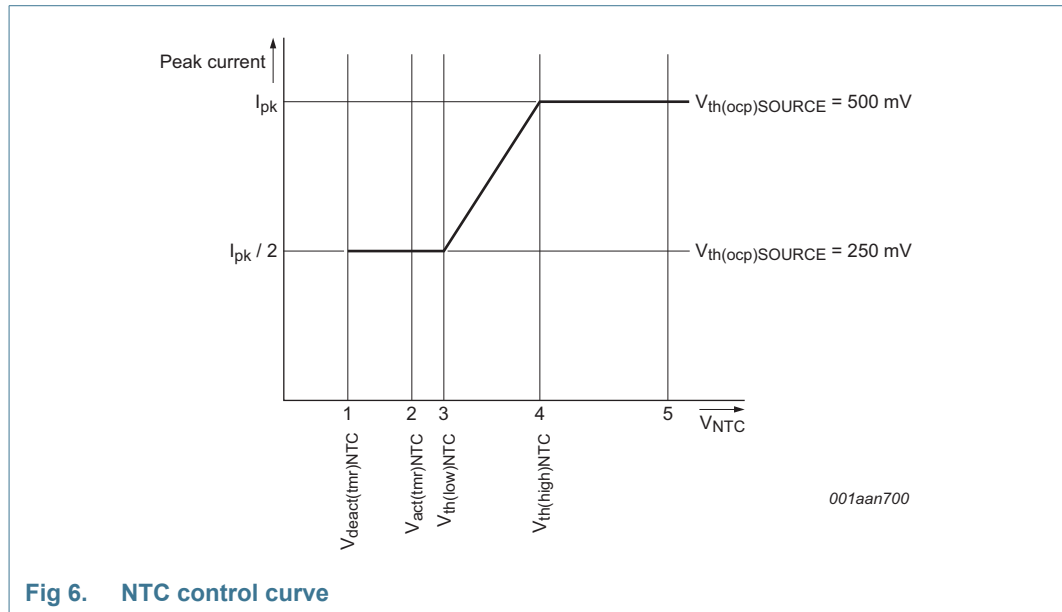

Fig 6. NTC control curve
The NTC pin can be used as a control method for LED thermal protection. Alternatively, the pin can be used as an input to disable/enable light output using a digital signal (PWM dimming). The pin has an internal current source that generates the current of $I_{offset(NTC)}$. An NTC resistor to monitor the LED temperature can be directly connected to the NTC pin. Depending on the resistance value and the corresponding voltage on the NTC pin, the converter reacts as shown in Figure 6.
When the voltage on the NTC pin exceeds $V_{th(high)NTC}$ (see Figure 6 (4)), the converter delivers nominal output current. When the voltage is lower than this level, the peak current is gradually reduced until $V_{th(low)NTC}$ is reached (see Figure 6 (3)). The peak current is now half the peak current of nominal operation. When $V_{act(tmr)NTC}$ is passed (see Figure 6 (2)) a timer starts to run to distinguish between the following situations:
- If the low-level $V_{deact(tmr)NTC}$ is not reached within time $t_{to(deact)NTC}$ (see Figure 6 (1)) LED overtemperature is detected. The IC stops switching and attempts to restart from the HV pin voltage. The converter restarts from an NTC protection shutdown when the voltage on the NTC pin exceeds $V_{th(high)NTC}$ (see Figure 6 (4)). It is assumed that the reduction in peak current does not result in a lower NTC temperature and LED OTP is activated.
- If the low-level $V_{deact(tmr)NTC}$ is reached within the time $t_{to(deact)NTC}$ (see Figure 6 (1)) it is assumed that the pin is pulled down externally. The restart function is not triggered. Instead, the output current is reduced to zero. PWM dimming can be implemented this way. The output current rises again when the voltage is higher than $V_{th(low)NTC}$.
The NTC pin can be used to make a soft start function. During switch-on, the level on the NTC pin is low. By connecting a capacitor (in parallel with the NTC resistor), a time constant can be defined. The time constant causes the level on the NTC pin to increase slowly. When passing level $V_{th(low)NTC}$ (see Figure 6 (3)), the converter starts with half of the maximum current. The output current slowly increases to maximum when $V_{th(high)NTC}$ (see Figure 6 (4)) is reached.